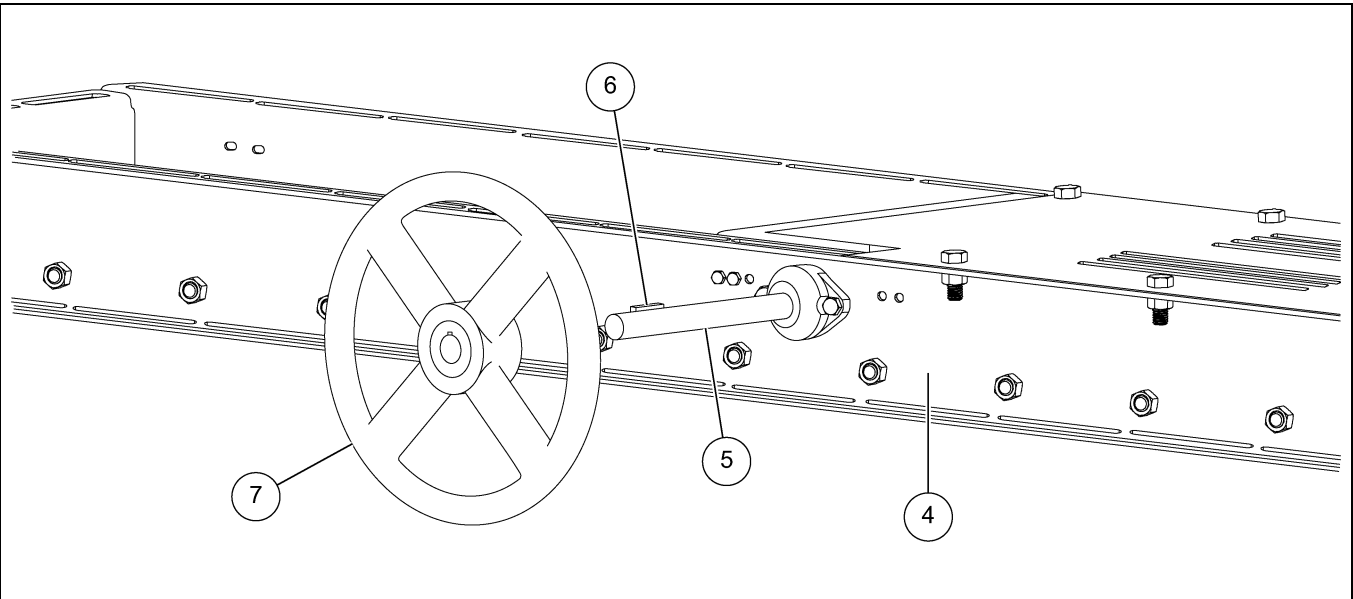

Figure 3C Manual Gate Installation
- 1. Install the specified wheel to the shaft by aligning the key (6) and key way, then tighten the set screw. This gate can be operated by a chain, cable or hand wheel (7). (See Figure 3C.)